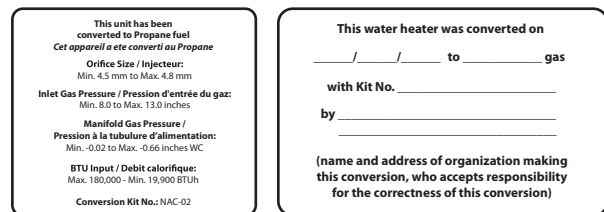

Figure 11. Proper Placement of Gas Conversion Labels
12. Once the CO2 or offset values have been confirmed, apply the included conversion stickers to show that the appliance has been converted to propane gas. Place this labels adjacent to the rating plate as shown in Figure 11.